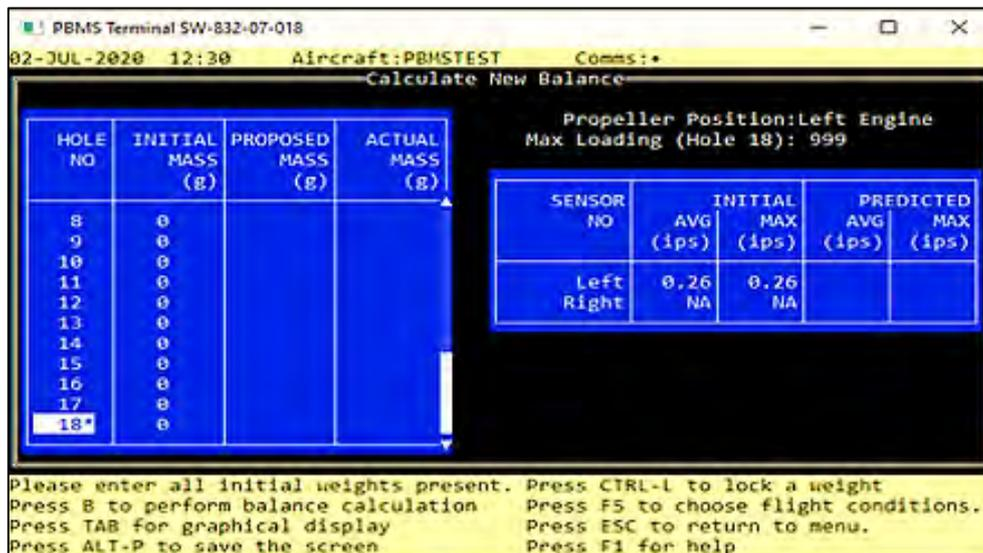
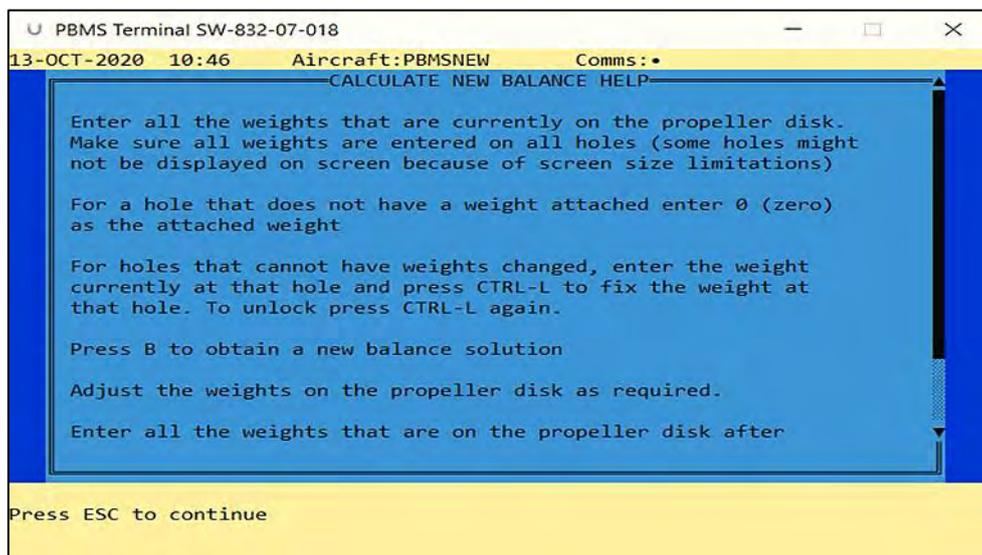

Figure 4-5 Calculate New Balance
Figure 4-6 Help
- (3) The Calculate New Balance screen will be shown on the PBMS Terminal (Ref Fig 4-5). At this point the only data displayed on the screen are the vibration levels in the file being used to calculate the new balance.
- (4) The PBMS Terminal needs the following information before it can calculate a new balance.
- (a) The Balance Weights currently installed on the Propeller Balance Ring (Initial Mass as per Fig 4-5)
- (b) What Flight Condition Categories are to be used to calculate the new Balance? **Ref Para 4.B. (1)**.
Note: The Vibration units in this screen **Fig 4-5** can be either Metres per Second, Centimetres per second or Inches per Second. Mass units can be either Kilograms, Grams or Ounces. Instructions on how to change the units displayed are provided in **Section 5 Para B**. Inches per Second (ips) and Grams (g) are the standard measurements.
- (5) Pressing F1 on the Calculate New balance screen (**Ref Fig 4-5**) will bring up the Help screen if required (**Ref Fig 4-6**).
- (7) If for any reason any installed weights cannot be removed, select the hole position with the cursor keys and press <CTRL> and <L> keys to lock a weight. The PBMS Terminal will mark the hole number with an asterisk (**Ref Fig 4-5 hole 18**) and will include this weight when calculating the new balance weight positions.